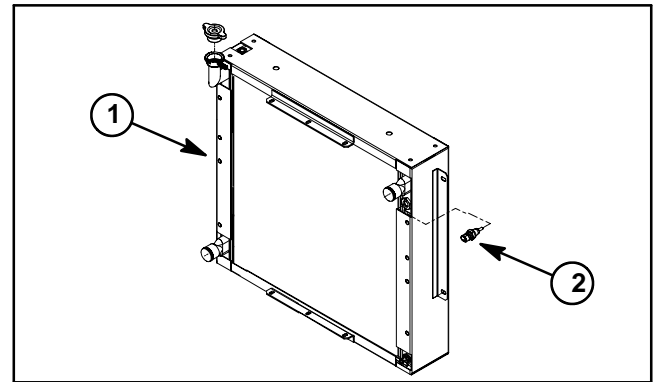
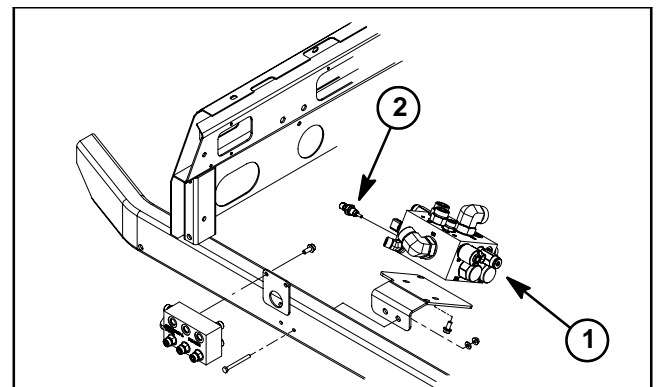

Figure 39
Figure 40
Two (2) identical temperature senders are used as inputs for the TEC-5002 controller to identify if either the engine coolant or hydraulic oil temperature has reached an excessive level. The coolant temperature sender threads into the radiator (Fig. 39). The hydraulic oil temperature sender is attached to the 4WD/2WD control manifold at the front of the machine (Fig. 40).